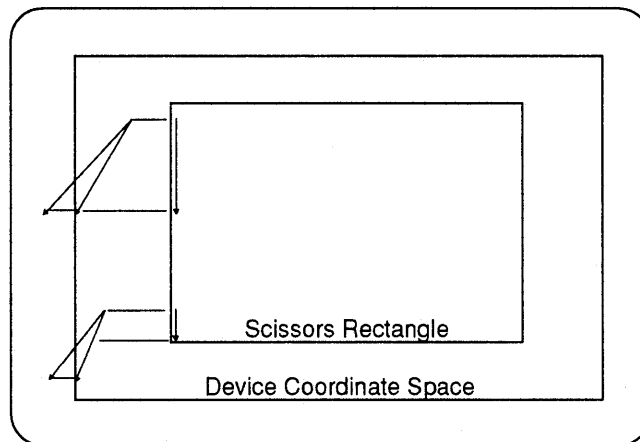

Figure 9-4. Polygon boundary lines.
1. Trivially Accepted Lines – Two polygon boundary lines are shown in figure 9-4. Both are to be drawn to the left of the scissor rectangle; but they should actually generate lines along the left edge of the scissor rectangle. A two-step procedure to draw these lines is as follows: